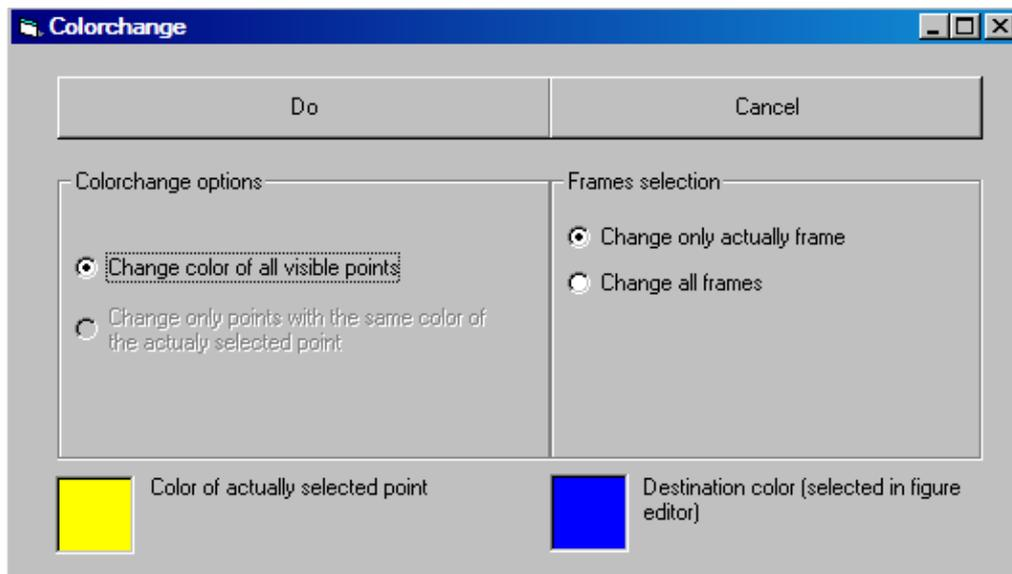

Fig.57: Menu Edit/Color change. Dialog to change colours of points.
3. Now click on “Color change”. A dialog to set the options is shown (see Fig.57). Please do your choice and finish with a click on “Do”. If “Colour of actually selected point” or “Destination colour” are not satisfactory, please click on “Cancel” and select the correct colours.